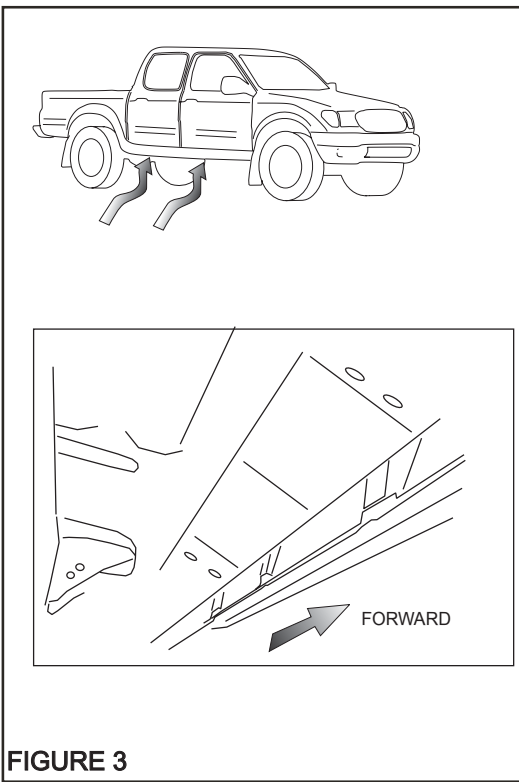

FIGURE 3
**STEP 3.** Install rear and center brackets as shown. Hand tighten (See Figure 3 and 4).